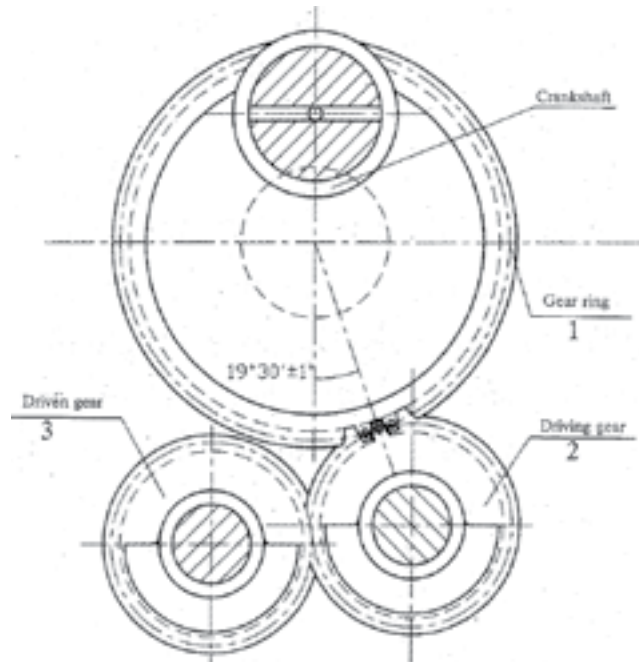
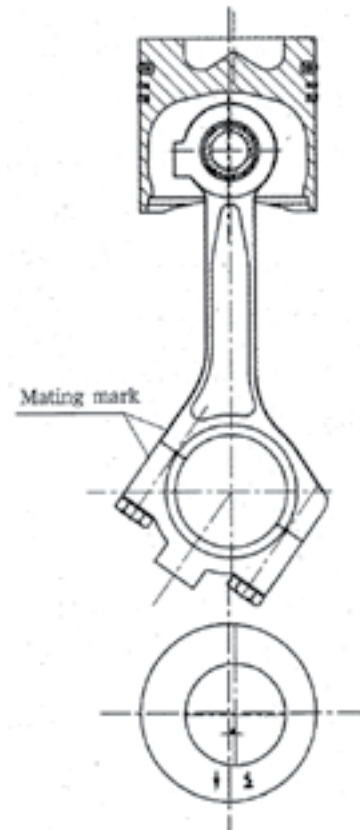

Figure 6 "0-0" Mark On Gear
Figure 8 Mating Markings
mark on the gear should be marked, if not already, on the specified position. See Fig 6. The mark "1" on the balancing shaft gear (2) of two stage balancing transmitting mechanism should be matched with the mark "1-1" on gear (3) The balancer is mounted on the main bearing cap. When mounting the mark "0-0" on gear ring should be matched with the mark on gear (2) of the balancing shaft. The gear side clearance is 0.00787" (0.2 mm). See Fig 8. The oil circuit should be unobstructed when mounting so as to ensure the lubrication of the balancer bearing.
The connecting rod body is machined with the cap and they are not interchangeable. There are mating marks on the body and cap. See Fig 8.